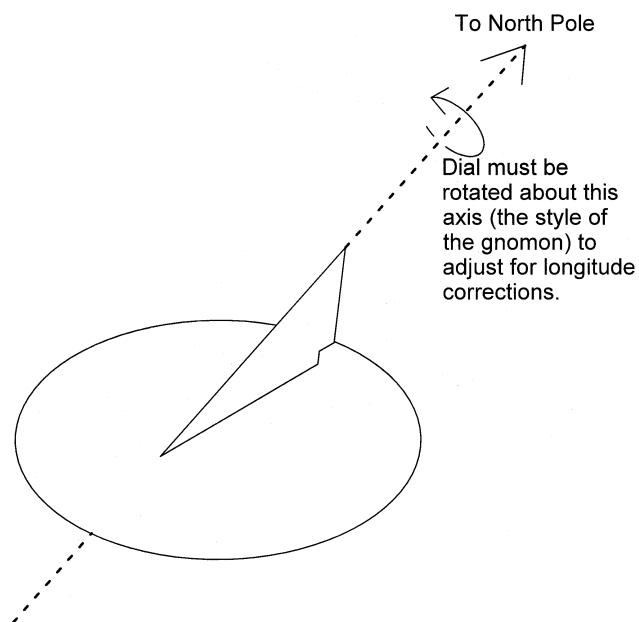

Figure 2
The dial will be rotated along the polar axis (the upper edge of the gnomon) an amount equal to T (Figure 2). The change in the orientation of the dial's plate is best described by imagining the tilt of a rod arising perpendicular to that plate. Before the adjustment, the rod's altitude (A) is 90 degrees, and its azimuth (Z) is unmeasurable. After the adjustment, the rod's altitude and azimuth will tell us exactly how the dial